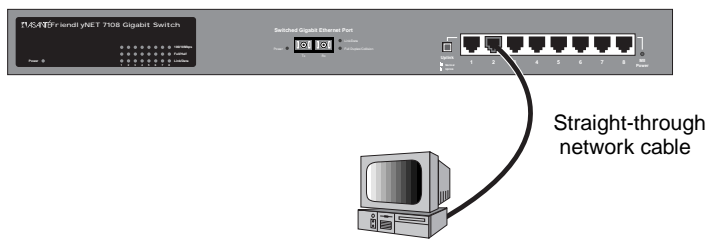

Figure 2-12 Connecting a computer to the Switch
- ☐ Connect the computer to any of the Switch's ports. See Figure 2-12